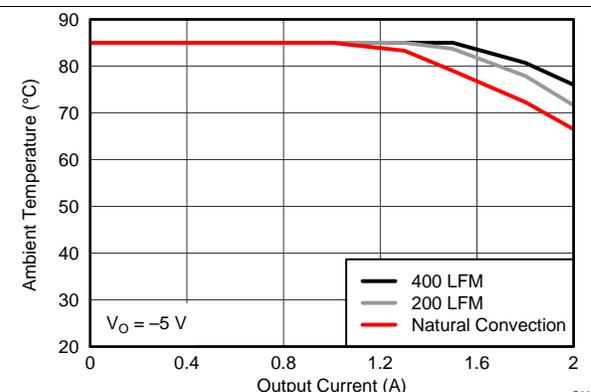
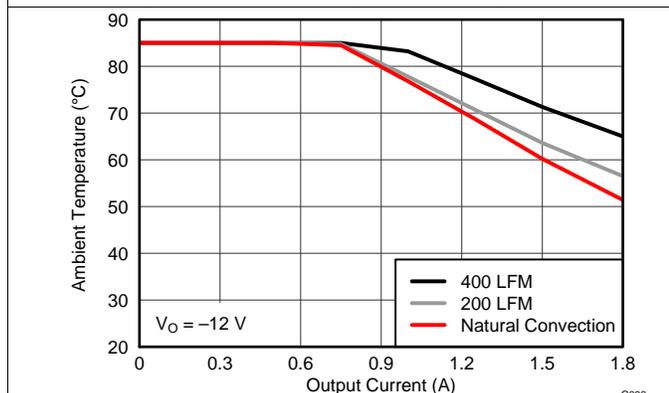
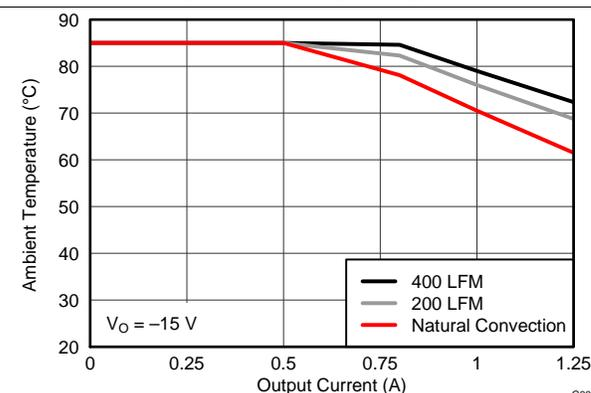

Figure 22. Safe Operating Area
Figure 23. Safe Operating Area
Figure 24. Safe Operating Area
- (3) The temperature derating curves represent the conditions at which internal components are at or below the manufacturer's maximum operating temperatures. Derating limits apply to devices soldered directly to a 100 mm x 100 mm, 4-layer, double-sided PCB with 1 oz. copper. Applies to Figure 22, Figure 23, and Figure 24.